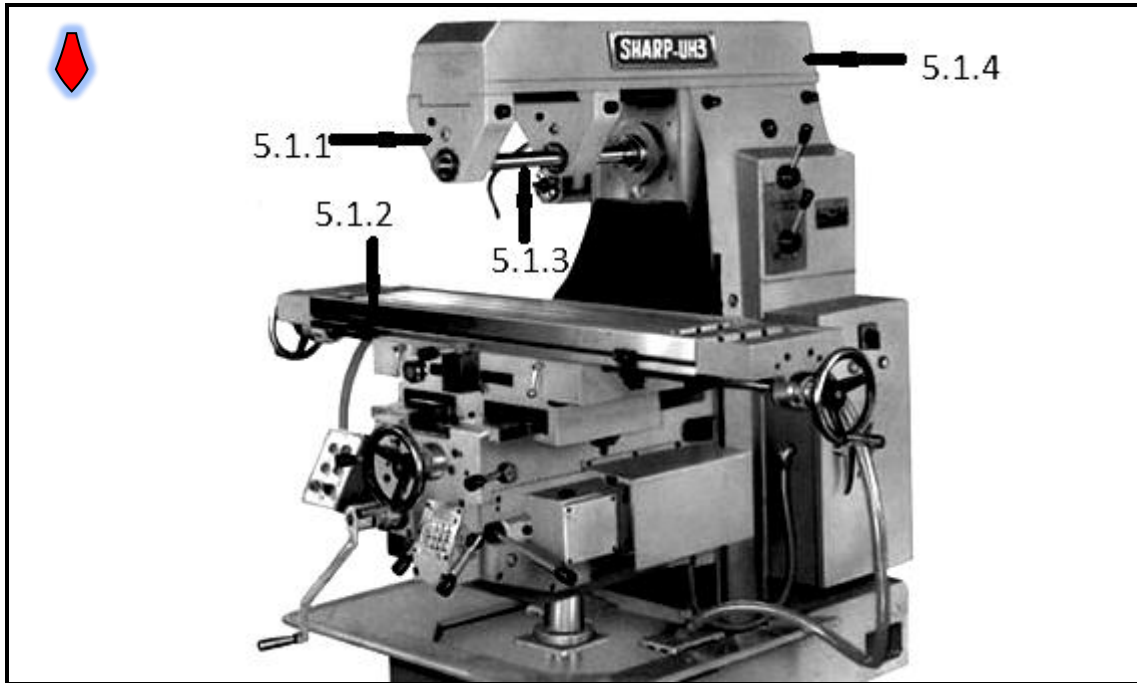

FIGURE 6
5.1 Label the components marked (5.1.1–5.1.4) in FIGURE 6 and write them in the ANSWER BOOK.
5.2 Identify the type of milling machine shown in FIGURE 6 above.